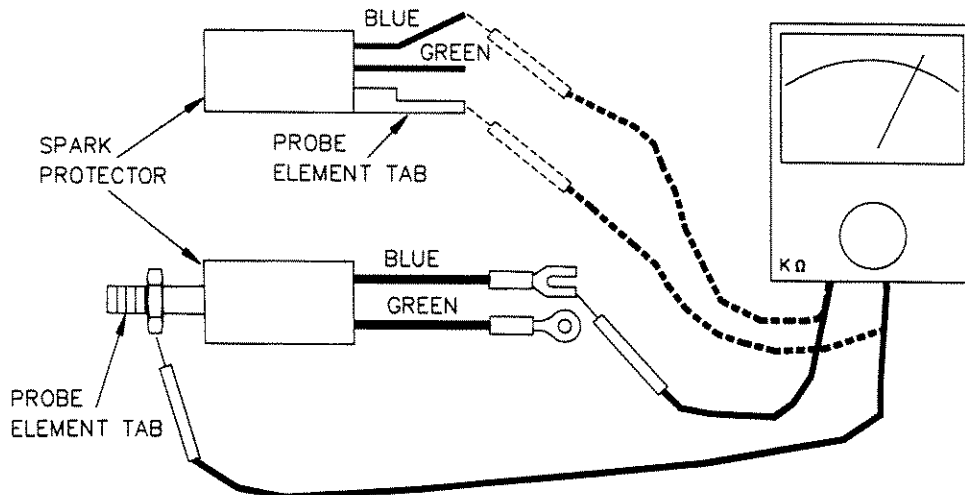

Figure 5-3
- A. See Figure 5-3. With the spark protector disconnected, use an analog ohmmeter to measure its resistive values.